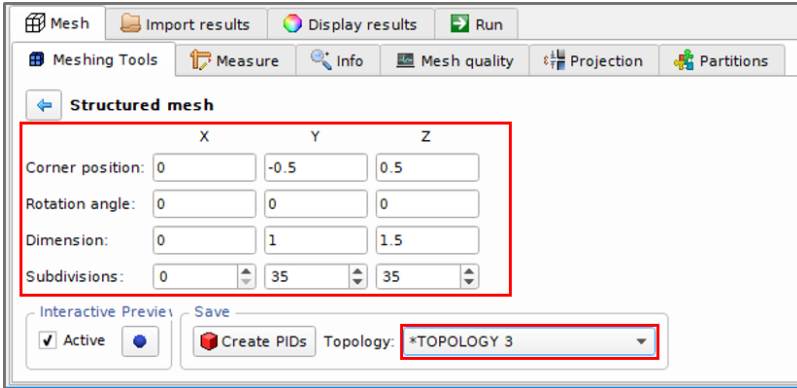

Figure 6.26: Create the second plane of field mesh
- Create the second plane of field mesh (Figure 6.26)